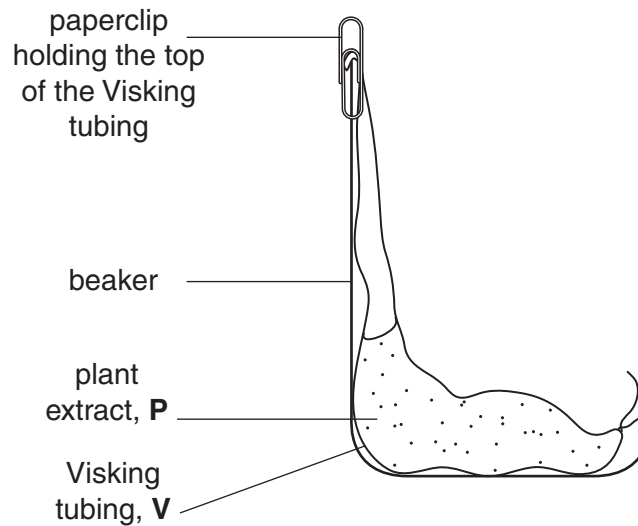

Fig. 1.1
Fig. 1.1 shows the apparatus before the water was added.
- (a) (i) Water is added to the beaker in Fig. 1.1.
The apparatus in Fig. 1.1 was set-up and water was added and left for 15 minutes. Sample **A** was removed from the water in the beaker.